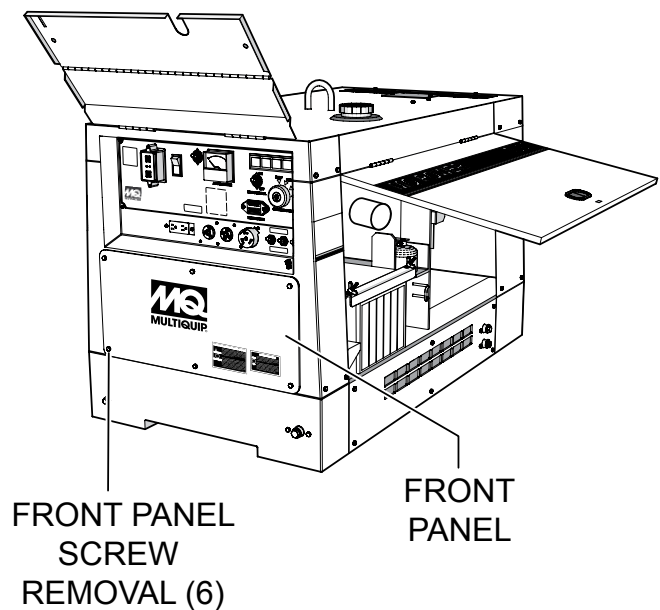

Figure 3. Front Panel Removal and Decal Placement
1. Using a 10mm socket, remove the front panel screws (6) as shown in Figure 3.
3. Apply the two VDC instruction decals (Figure 3) to the lower right corner of the front panel.